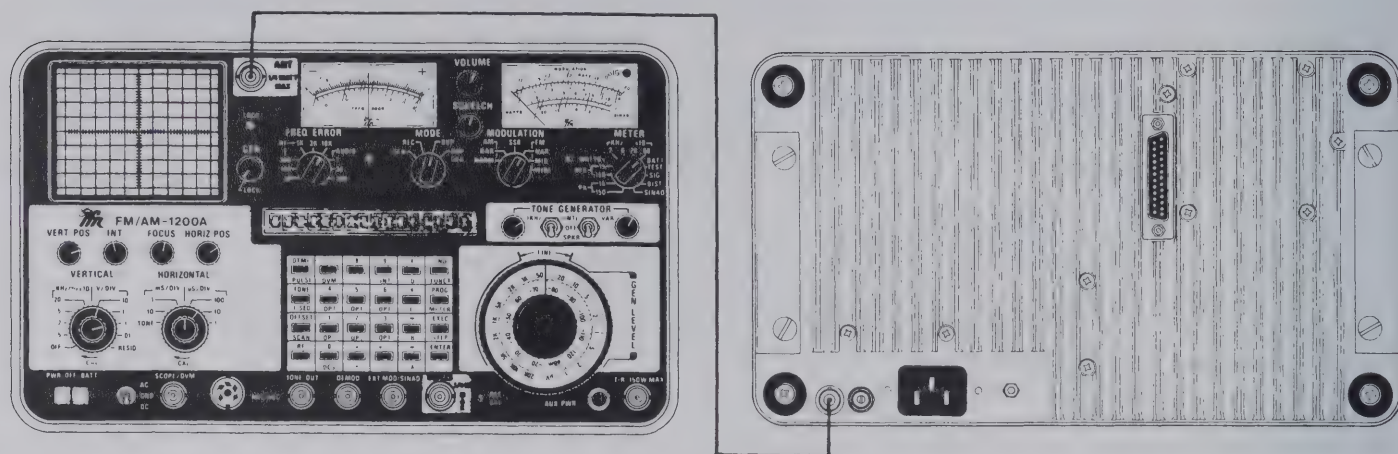

Figure C-1 Performance Test Set-Up Diagram
2. Connect 2-foot length of 50 $\Omega$  coaxial cable between ANT Connector (34) and External Reference Connector (46) as shown in Figure C-1.
3. Place PWR/OFF/BATT Switch (22) to either "PWR" or "BATT" position and observe the following indications: